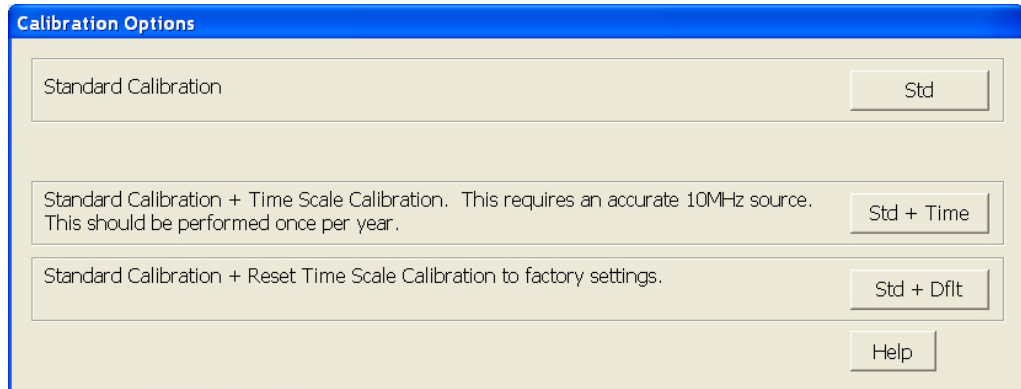

Figure 39 Time Scale Calibration Dialog box
- d During the calibration of channel 1, if you are prompted to perform a Time Scale Calibration, as shown in Figure 39 below.